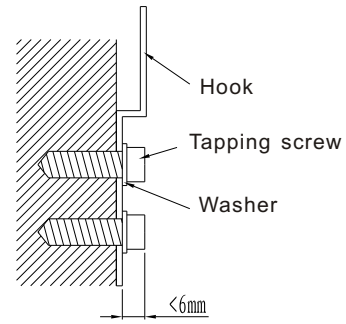

Fig 12
- Fix the hook with tapping screw onto the wall (Refer to Fig 12 )